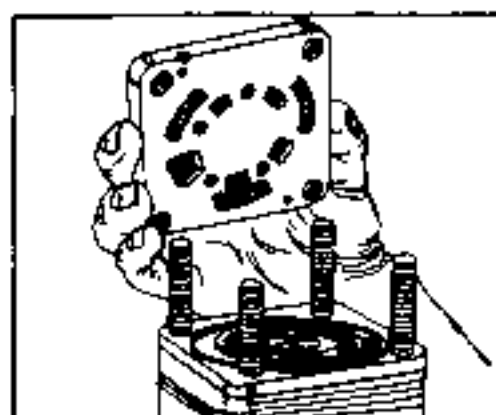

FIGURE 9.
7. Carefully lift the port manifold (8) (3 plates bonded together) from the unit. See figure 9.